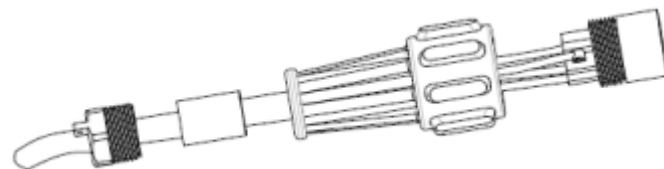

Fig.5.1.6
- 3) Insert the contact into the body with slotted screwdriver (1.13Nm (10 lbf. in.) to 1.36Nm (12 lbf. in.)), screw up other components of the connector as Fig.5.1.6 -5.1.7.